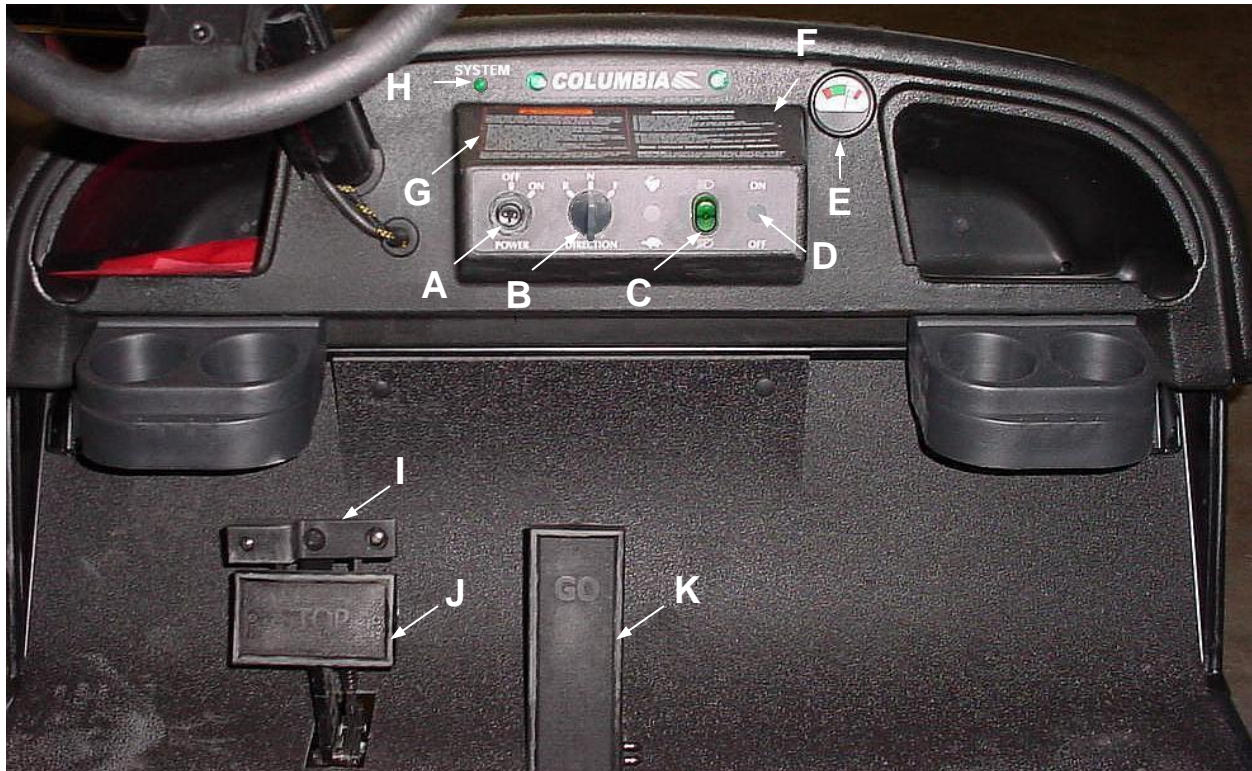
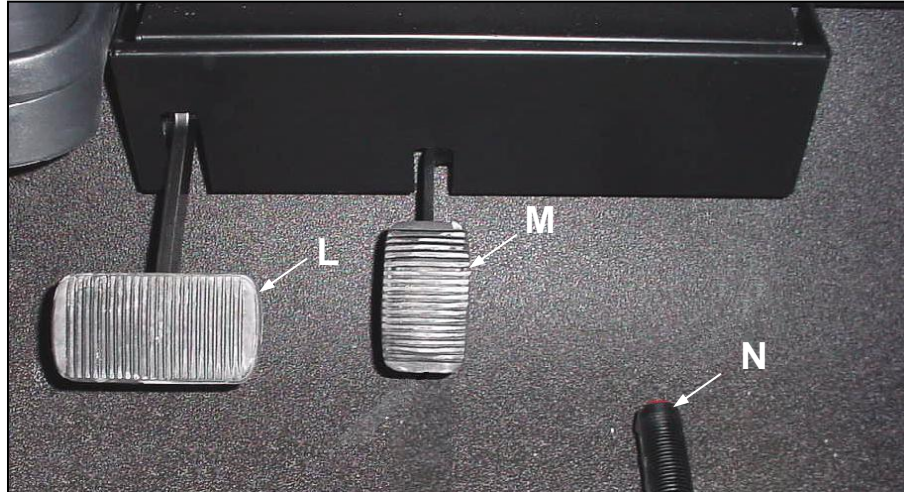

Figure 3.3.1
Figure 3.3.3
This section describes the operating controls of the vehicle. Figure 3.3.1 identifies many of these controls.
3.3.1 POWER KEYSWITCH – Figure 3.3.1 –Arrow A
3.3.2 DIRECTION SELECTOR – Figure 3.3.1 - Arrow B
3.3.3 LIGHT SWITCH – Figure 3.3.1 - Arrow C
3.3.4 AUXILIARY EQUIPMENT SWITCH - Figure 3.3.1 Arrow D
3.3.5 BATTERY STATE OF CHARGE METER – Figure 3.3.1 Arrow E
3.3.6 WARNINGS & OPERATING INSTRUCTION – Figure 3.3.1 Arrow F & G
3.3.7 SYSTEM STATUS LIGHT – Figure 3.3.1 Arrow H
For vehicles with mechanical brakes Figure 3.3.1 shows the brake pedal (Arrow J) and the parking brake lock (Arrow I). The parking brake lock (Arrow I) is a bar located at the top of the brake pedal. To lock foot brake for parking, depress pedal and bar at the same time. Always apply parking brake when leaving the vehicle. It remains applied until automatically released by depressing the accelerator pedal. Parking brake can also be released by momentarily depressing the brake pedal, and then releasing it.
Figure 3.3.3 shows the brake pedal (Arrow L) and parking brake (Arrow N) for vehicles with hydraulic brakes. These vehicles will have a hand parking brake located either on the floor as shown in Figure 3.3.3 or if equipped with bucket seats, located between the seats. To lock the brake, pull the brake lever upward. To release, depress the button at the end of the handle and let the handle down to the original position. Always apply parking brake when leaving the vehicle.
Figure 3.3.1 shows the accelerator pedal (Arrow K) for vehicles with mechanical brakes. Figure 3.3.3 shows the accelerator pedal (Arrow M) for vehicles with hydraulic brakes. They control the speed of the vehicle in the same manner as a conventional automobile. The pedal should be fully released when changing directions.